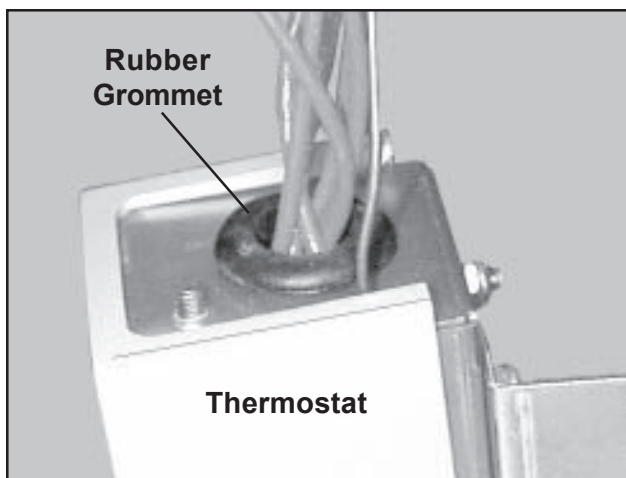

Figure 127. Rubber Grommet
12. With a small flat-blade screwdriver, pry out the rubber grommet from the hole through which the six wires passed (Figure 127). Save the grommet for re-installation.
8. Install the rubber grommet removed earlier into this hole (Figure 127).